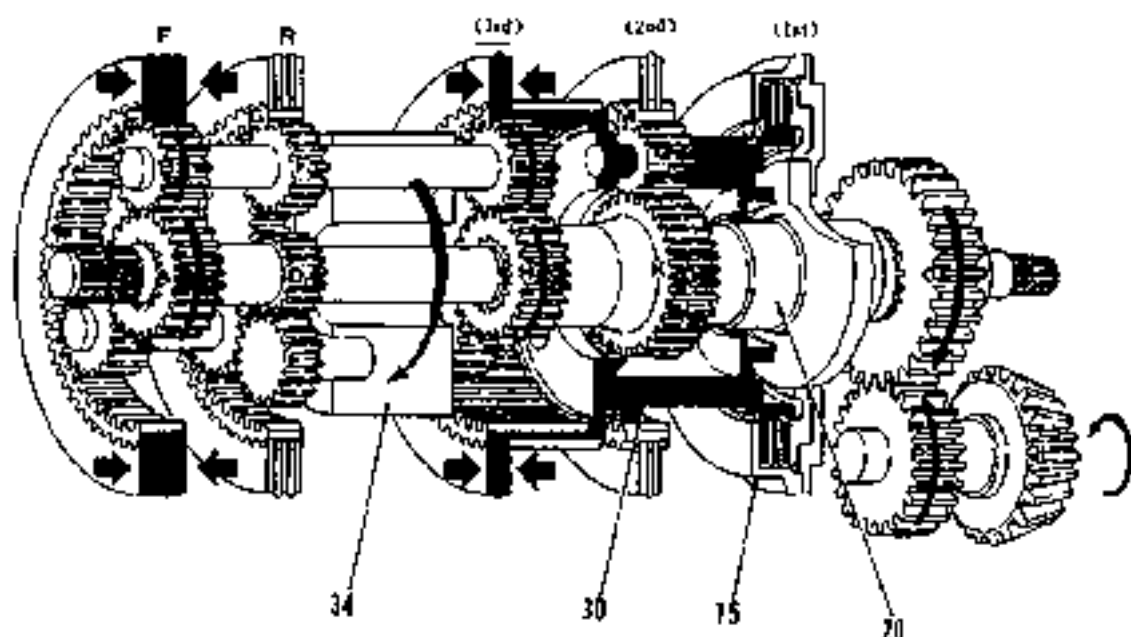

Fig. 2-23 Forward 3rd speed transmitting line
3. Forward 3rd speed transmitting line(See Fig. 2-23).